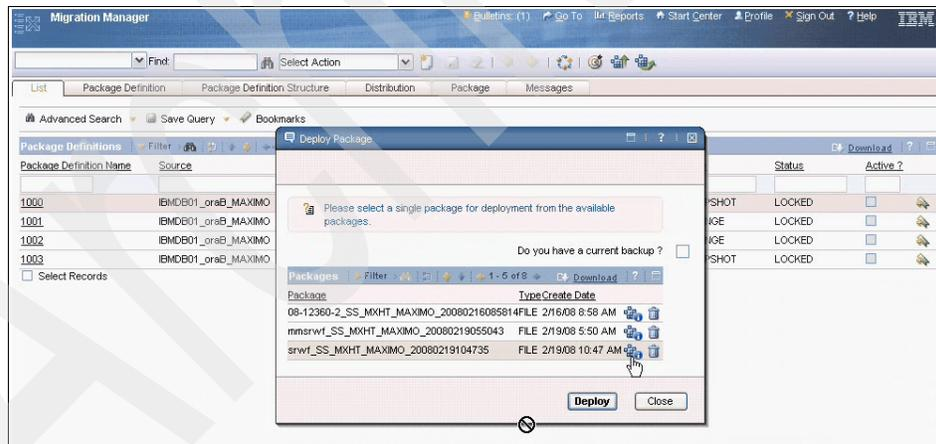

Figure 8-49 View selected package manifest
6. To view general information about the package prior to deployment, you can click the **Package Information** button, as shown in Figure 8-49.